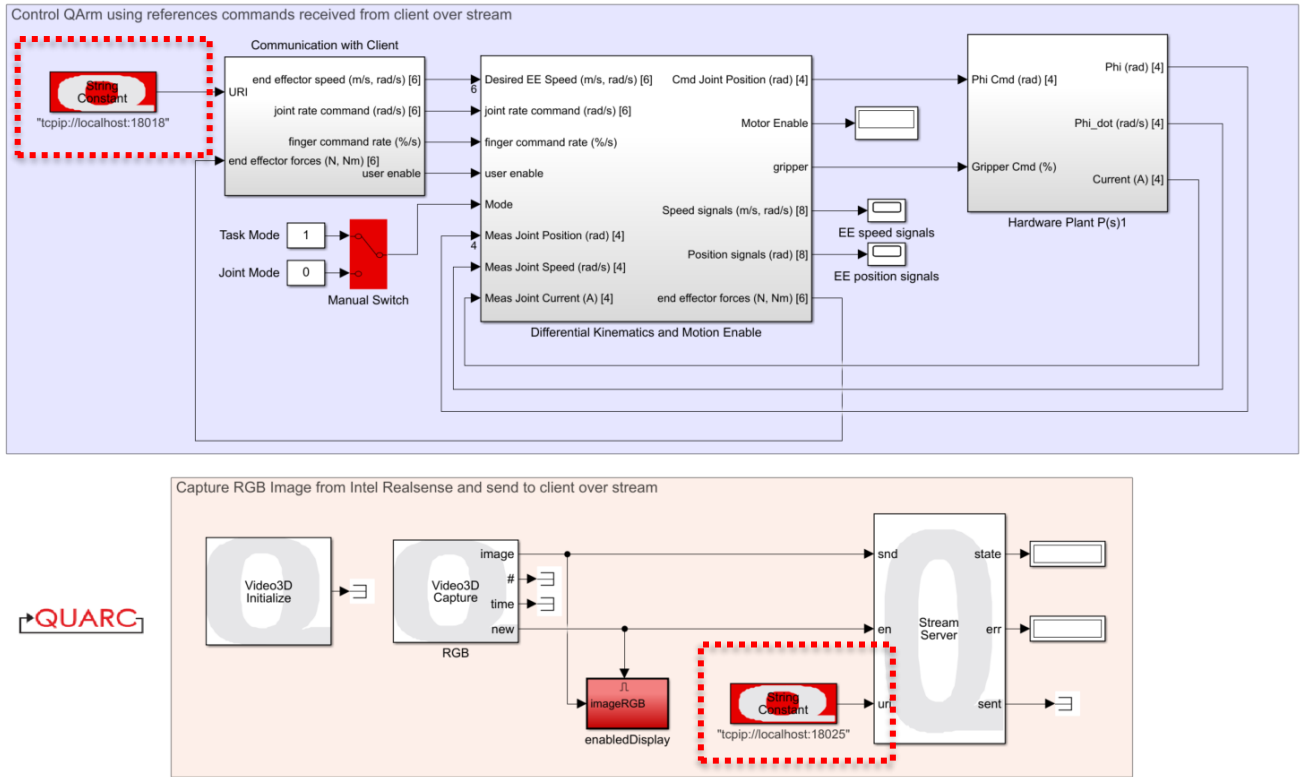

Figure 2: QArm_TeleopServer block diagram with string constant blocks highlighted.
2. Modify the two red "string constant" blocks (highlighted in Figure 2), replacing "localhost" with the IP address of the host PC.